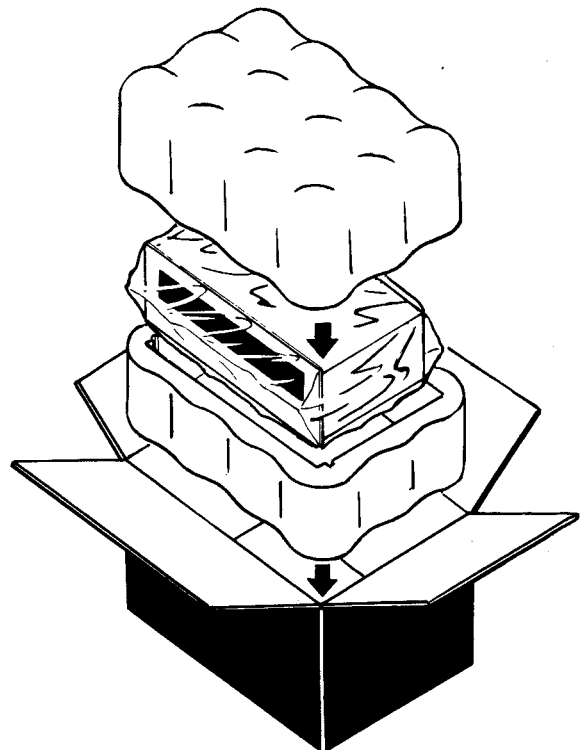

Figure 2-11 Repacking Illustration
- A. Pack the unit carefully, using the original material as shown in Figure 2-11.